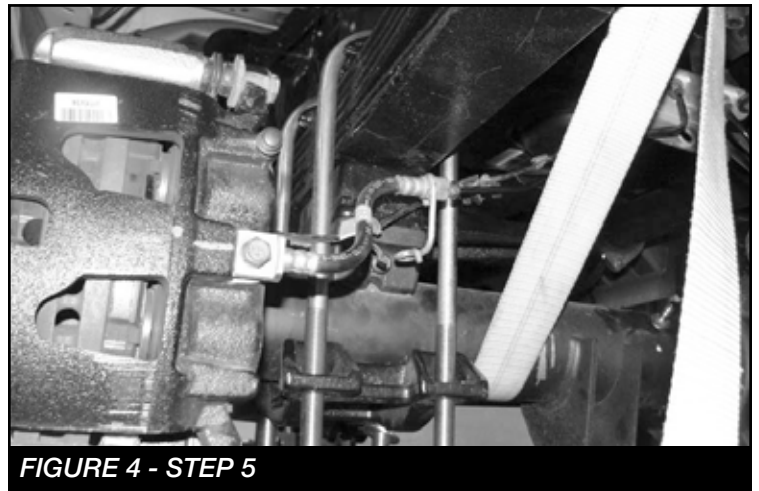
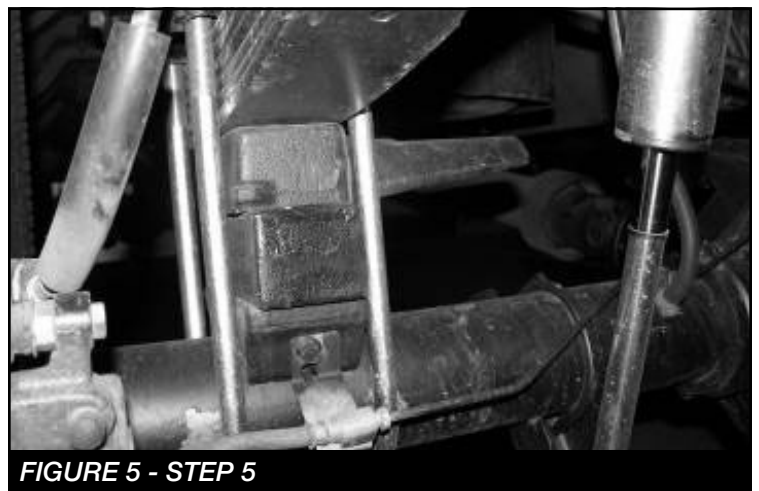

FIGURE 4 - STEP 5
FIGURE 5 - STEP 5
5. Install the new leaf spring into the original spring location using the factory shackle and hanger bolts. Torque to 148 ft-lbs. Use the supplied u-bolts to secure the new leaf spring to the axle. **NOTE: The factory block will be reused in the factory location.** Torque the u-bolts to 179 ft-lbs. (SEE FIGURE 4 for 11-UP) & (FIGURE 5 for 08-10).